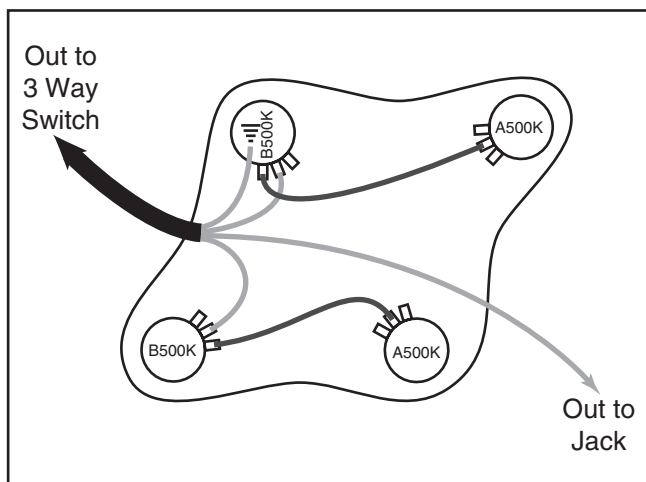

Figure 11. Wiring diagram 1.
1. Place the pots into the electronics cavity as shown in **Figure 11**.